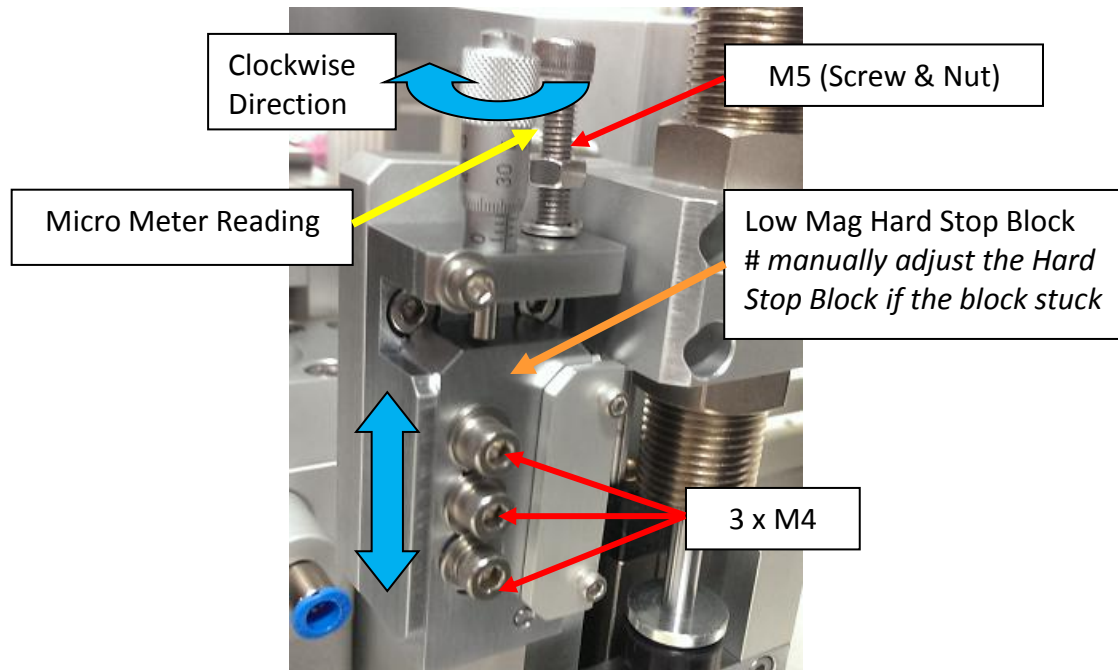

Figure 12 Low mag hard stop
14. Loosen Hard stop Block Screw (3 x M4) and the Hard Stop Support Screw & Nut (M5) as Figure 12.